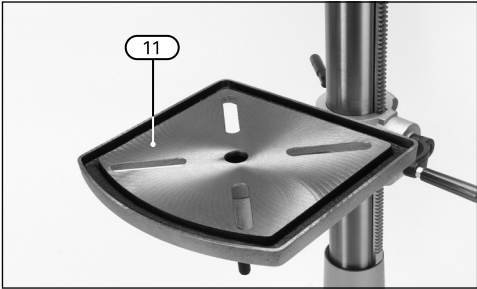
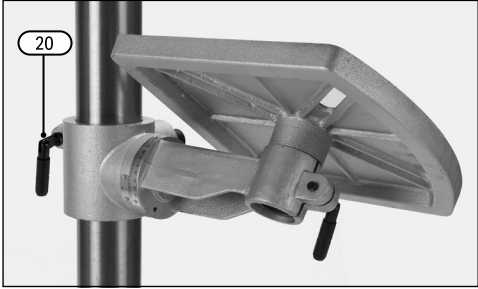

Fig. 16
Fig. 19
- To switch the machine on, press the green '**ON**' (I) button.
- To switch the machine off, press the red '**OFF**' (O) button.
7.4 Worktable Adjustment (Fig.16 – Fig.19)